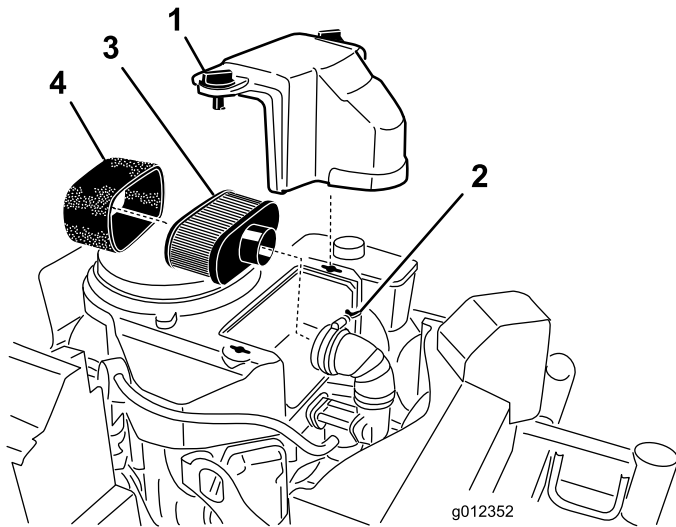

Figure 24
3. Clean around the air cleaner to prevent dirt from getting into the engine and causing damage (Figure 24).
4. Unscrew the cover knobs and remove the air-cleaner cover (Figure 24).
5. Unscrew the hose clamp and remove the air-cleaner assembly (Figure 24).
6. Carefully pull the foam element off the paper element (Figure 24).
1. Do not clean the paper filter. Replace it (Figure 24).
1. Carefully slide the foam element onto the paper air-cleaner element (Figure 24).
2. Place the air-cleaner assembly onto the air-cleaner base and secure it with the 2 wing nuts (Figure 24).
3. Place the air-cleaner cover into position and tighten the cover knob (Figure 24).